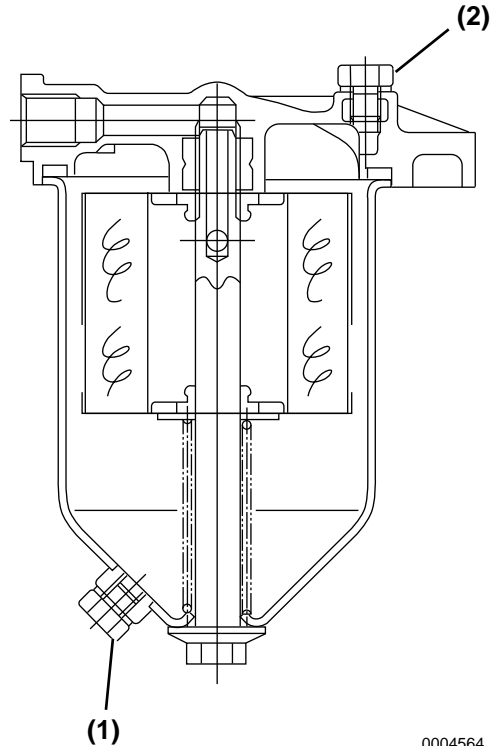

Figure 10
2. Loosen the drain plug (**Figure 10, (1)**) of the water separator and drain off any water or dirt collected inside. Dispose of the collected water and dirt properly. NOTICE: ALWAYS be environmentally responsible.
3. After draining, tighten the air bleed screw (**Figure 10, (2)**).